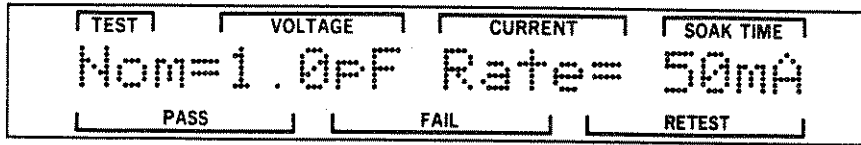

Figure 7-42. Nominal Capacitance and Charge Rate Screen
STEP 4. Press the UP or DOWN pushbutton until the Nominal Capacitance and Charge Rate screen is displayed. Figure 7-42 is an example of this screen.